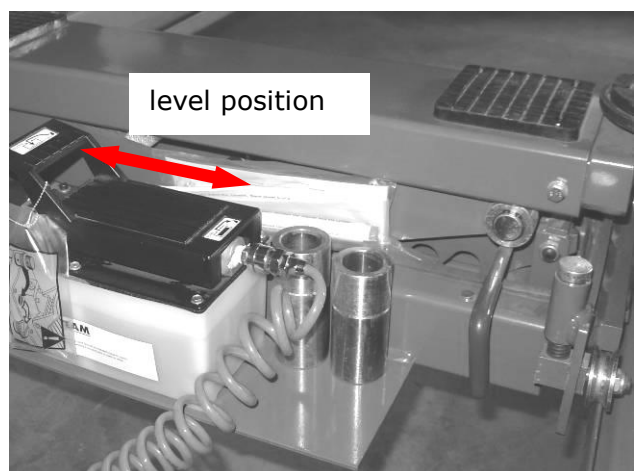

Fig.10
- ② Press the control plate to the level position while the W-8 stop lowering. (Fig.10)